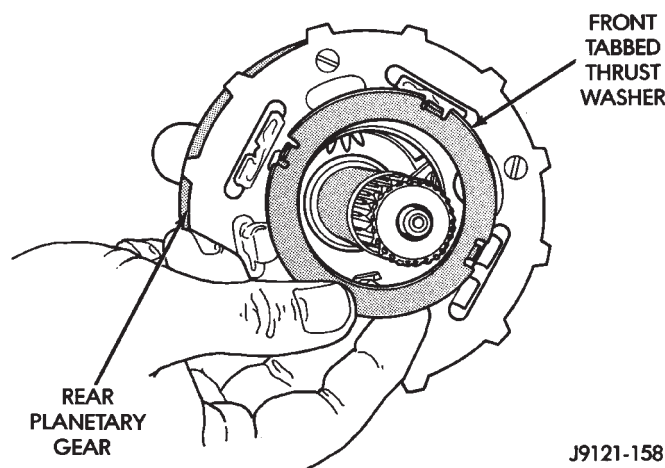

Fig. 151 Installing Rear Planetary Front Thrust Washer
(6) Install front thrust washer on rear planetary gear (Fig. 151). Use enough petroleum jelly to hold washer on gear. Be sure all four washer tabs are seated in slots.